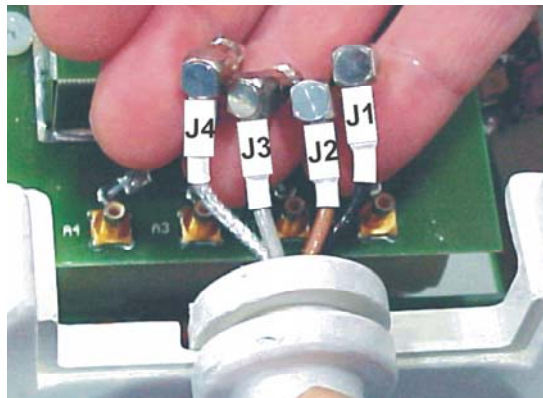

Figure 22: Attaching the new cable.
Step 4 – Slide strain relief of the new cable into slot (see *Figure 22*).